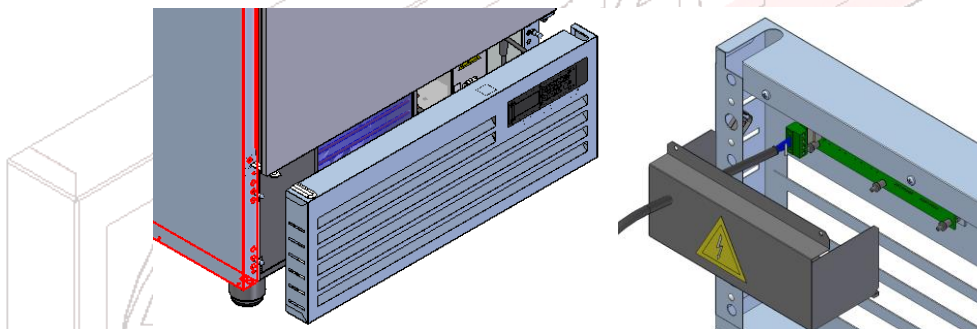

Figure 11
- XIII. Dismantle the condenser protective panel, pulling it in the direction indicated in figure 11.
- I. Remove the condenser protective panel to uncover the panel kit. On the SBU15GL..., the panel kit is mounted directly on the condenser protective panel (figure 11), while on the SBU20GL... and SBU20GT... models, the panel kit is positioned in a “boxed” metal sheet behind the condenser panel (figure 12).